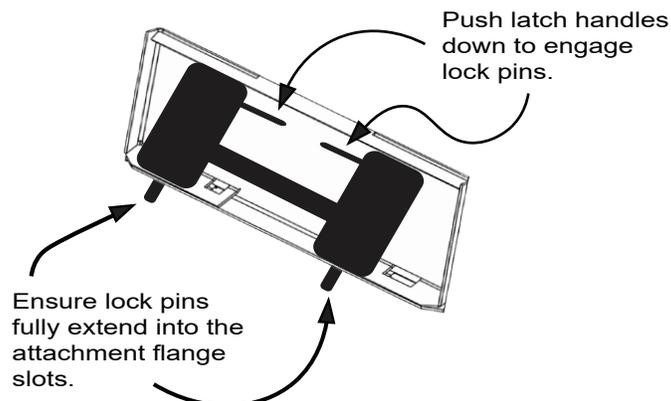

FIGURE 3.2B QUICK ATTACH COUPLER LOCKED TO ATTACHMENT PLATE
4. Activate your skid steer's lever lock switch to engage and lock the pins into the flange slots of the broom's attachment plate. If your skid steer does not have this switch, push the latch handles down until you can see the lock pins extend into the attachment flange as shown in Figure 3.2b below.